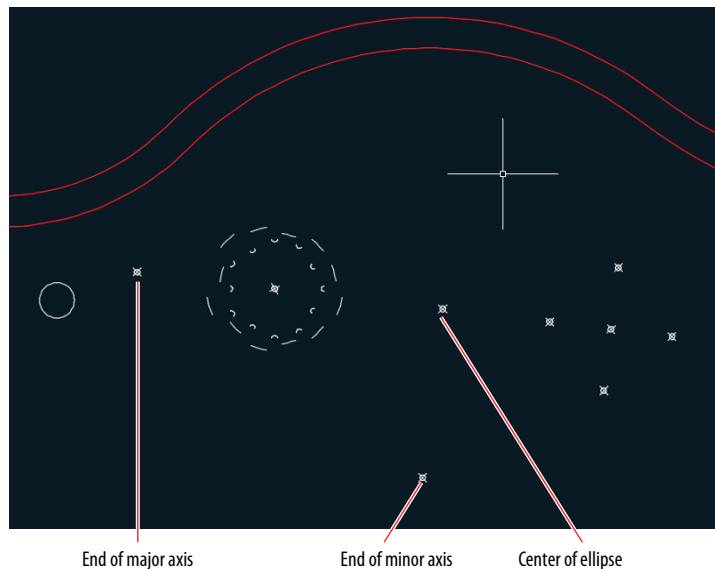

FIGURE 5.10 Drawing an ellipse
3. Open the Ellipse menu in the Draw panel, and choose the Center method. Click the center point, the end of the major axis, and the end of the minor axis, shown in Figure 5.10.
5. Right-click the Object Snap toggle in the status bar, and select Quadrant from the context menu. Click the *quadrant point* opposite the point object marking the end of the major axis (see Figure 5.10), and then click the aforementioned point object itself to break the ellipse in half. The lower half of the ellipse remains, leaving an *elliptical arc*.